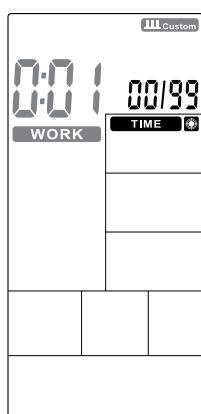

Figure 33
- ② The TIME continues lighting up, **WORK** and 0:01 will flash, press UP/DOWN to set training time within 0:00~9:59 circularly (Figure 33). Press ENTER to confirm along with buzzer beeps 1s and **INTERVAL CUSTOM** continues lighting up.